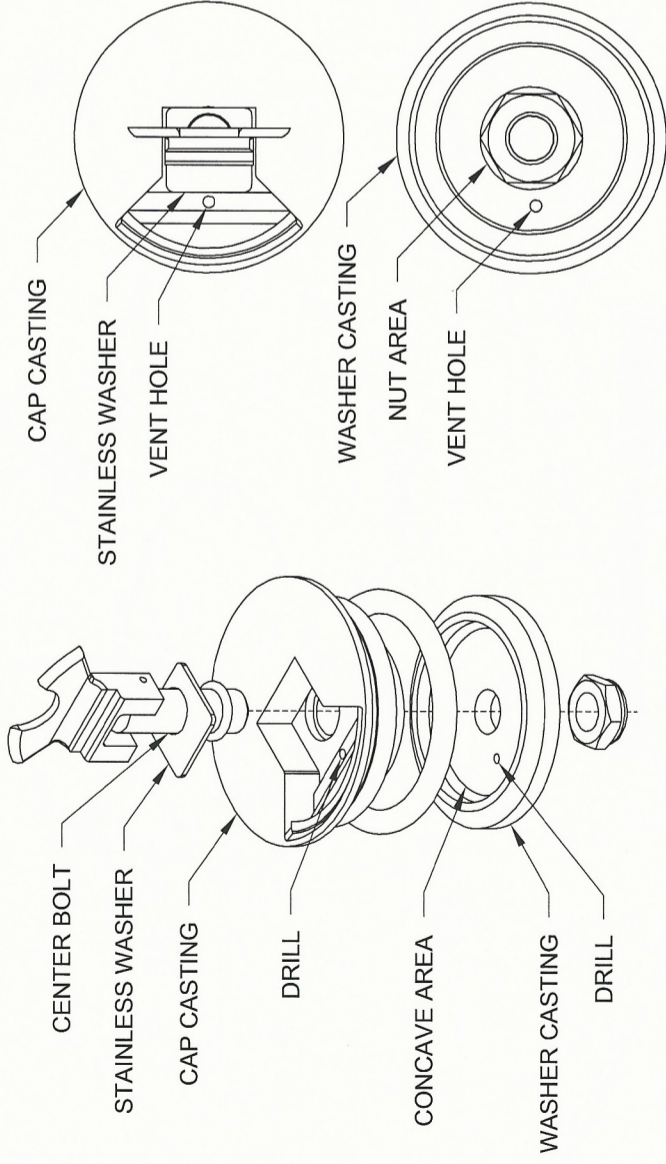

FIGURE 2: FUEL CAP VENT HOLE
Step 4: Disassemble the T-406A Fuel Cap. Drill #40 a vent hole through the fuel cap-cap casting, centered on the last step closest to the stainless washer. Drill #40 a vent hole through the fuel cap-washer casting, within the concave area and outside of the nut area, as shown in Figure 2. Deburr the drilled vent holes and clear away chips. Reassemble the fuel cap. Refer to the instructions provided with the fuel cap for proper adjustment.